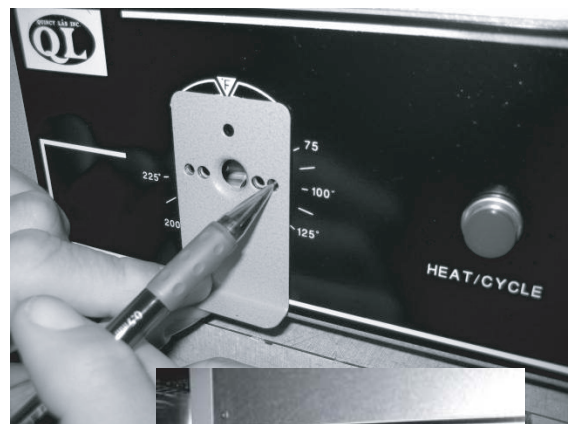
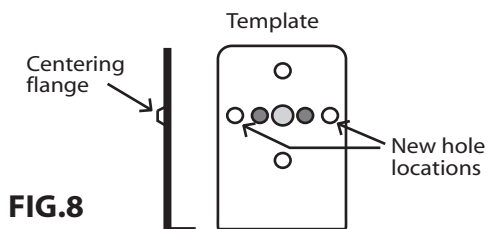

FIG.9
FIG.8
7. If the new replacement thermostat is different from the original, two new holes will need to be drilled in an alternate location on the panel. Use the template as shown, with the centering flange pressed in the shaft hole. (FIG. 8) Hold template square to the panel and mark the new hole locations using the outer horizontal holes on the template. (FIG. 9)
8. With the drill bit provided, drill two new 5/32 diameter holes at the newly marked locations (9/16" on each side of the shaft hole center). (FIG.9) Drill completely through the panel and into the electrical base. Remove burrs from the hole openings so the thermostat bracket will mate flush to the electrical enclosure. This will prevent a crooked turning shaft & knob.
**NOTE:** For a tighter set point tolerance install new bulb clips provided as shown in figure 8. This bulb placement is diagonal from the though hole corner and about 1/8 inch above the surface of the heating element (not in contact with element). Mark and drill using a 3/32 drill bit (enclosed) at points approximately between the element "legs" and secure with screws provided. This bulb placement works well for all GC & AF models. (FIG. 12)